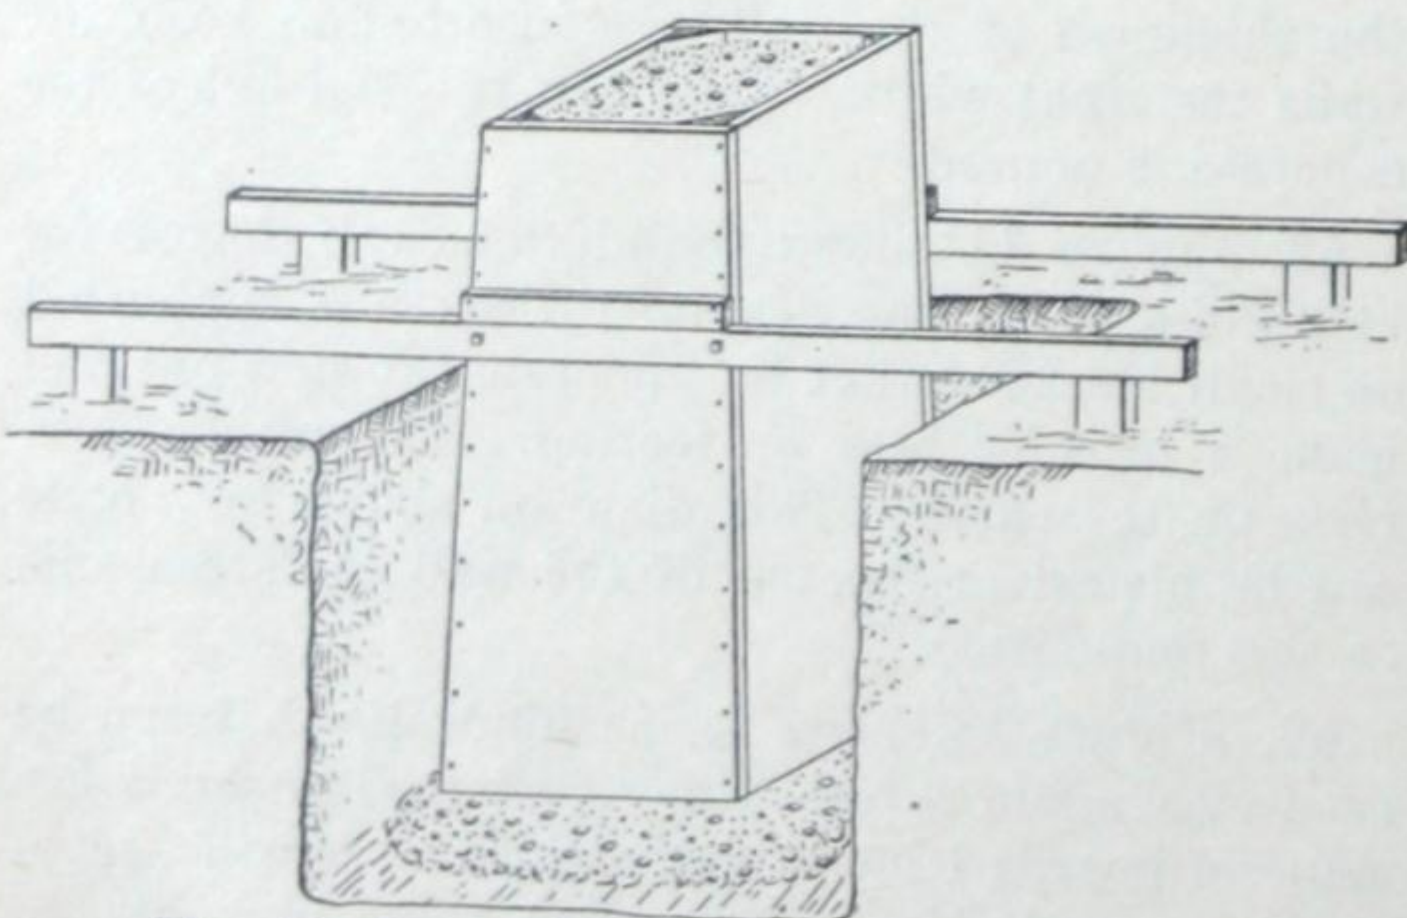

Fig. 15—Removable form for making piers or parts of foundation.
72. A form made on the plan of Figure 15, measuring inside 10 or 12 inches on each side at the top and a little more at the bottom—being sloped so that it can be lifted off the concrete, is a very useful form to make and keep around. With such a form you can do a great deal of work at odd times, when you need two or three piers, or even more, to use as a foundation for some building. The top level of the pier can be regulated by putting blocks under the handles of the form. By digging the hole for the